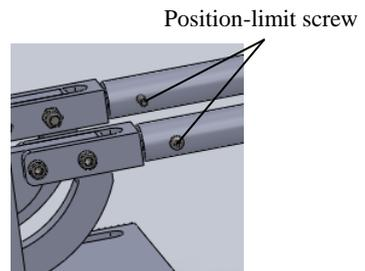

Figure 9
- ③ Connect the handle with the control mechanism, let the pulled out position-limit screw into the connection holes as shown in figure 9: